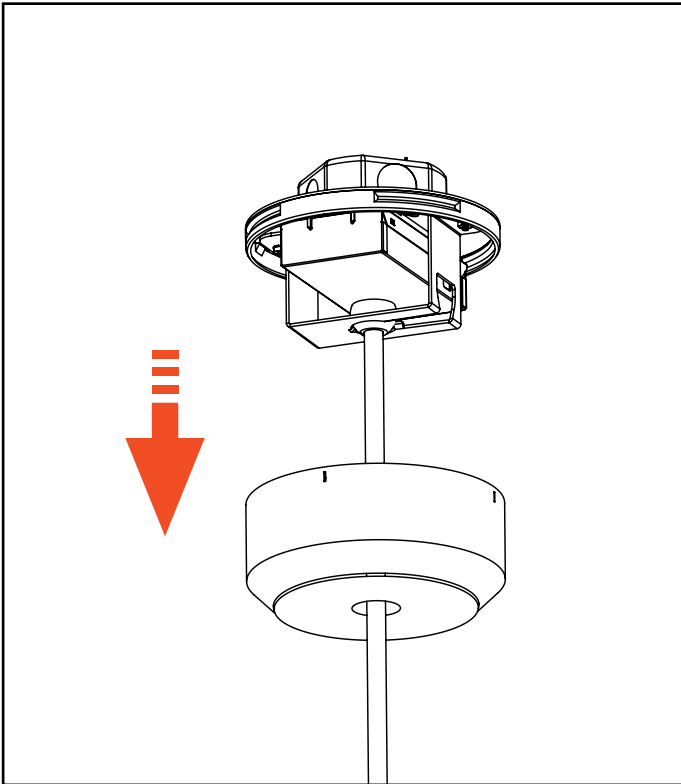

Figure 22
2. Take out the **Canopy Cover (H)** by pulling down (Figure 22)